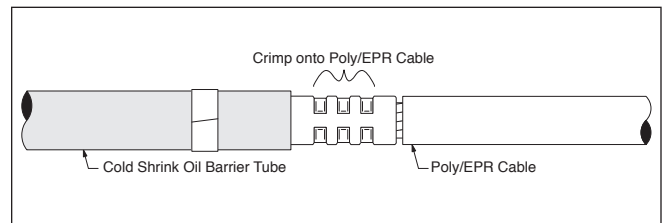

Figure 11
- 5.1 For connectors requiring a 3M™ Cold Shrink Connector Adapter QS-III, park the indicated adapter onto the Poly/EPR cable insulation with ribbon tab facing toward the cable end (Figure 11).
- 5.2 Prepare conductor according to standard practice and crimp connector onto Poly/EPR cable conductor (Figure 11).